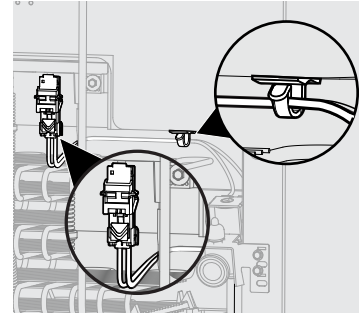

Figure 13
- Plug the connector on the water valve wire harness into the connector above the condenser coil. You will hear a click when it is fully seated in place. Install the water valve clip at the bottom right side of the unit, and route and attach the water valve harness into the clip. See Figure 13.